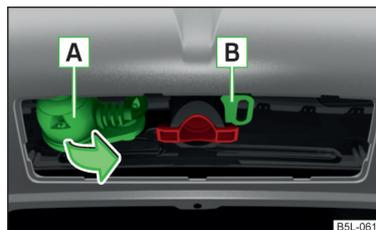

Fig. 156
- Swing the 13-pin socket in the direction of arrow **A** » Fig. 156.
- Plug the trailer cable into the 13-pin socket **A** » Fig. 156.
B » Fig. 156.
► Grip the 13-pin socket at point **A** and swing in the opposite direction to the arrow » Fig. 156.